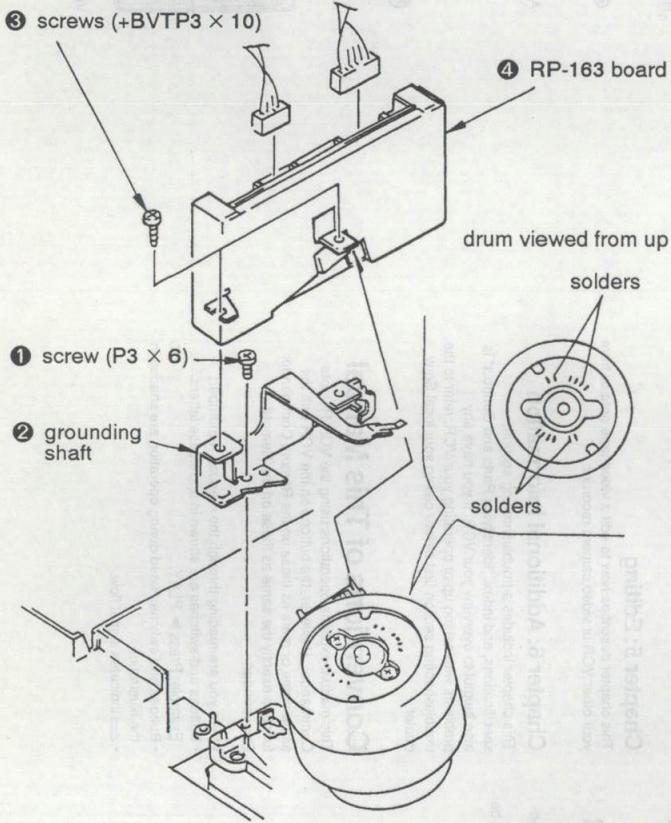

Fig. 4
- 1) Remove the screw ① (+P3 × 6) and take out the grounding shaft ② . (See Fig. 4.)
- 2) Remove the two screws ③ (+BVTP 3 × 10) and take out the RP-163 board ④ . (See Fig. 4.)